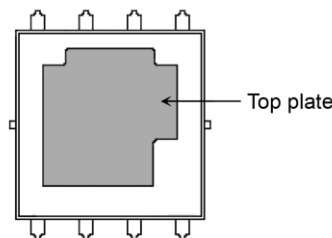

Fig. 1.1 DSOP Advance(WF) Top View
1. Comparison of Packages (DSOP Advance(WF) and SOP Advance(WF))
Table 1-1 shows the main differences between DSOP Advance(WF) and SOP Advance(WF) which have the same package size. The DSOP Advance(WF) package has a heat sink that can dissipate heat from the top surface of the package as shown in the Perspective View in Table 1-1. This heat sink is called the "Top plate" (refer to Fig. 1.1).